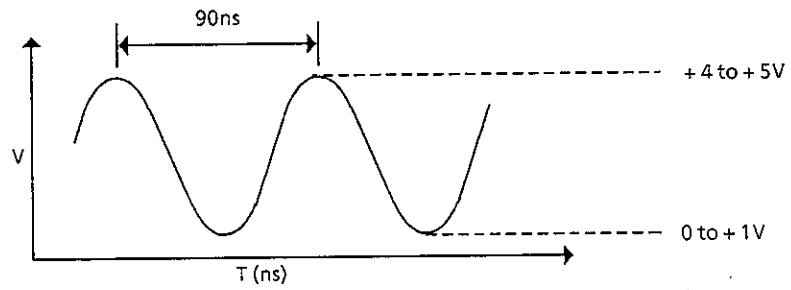

Figure E-3-1
• Is the waveform of OSC as shown in Figure E-3-1?